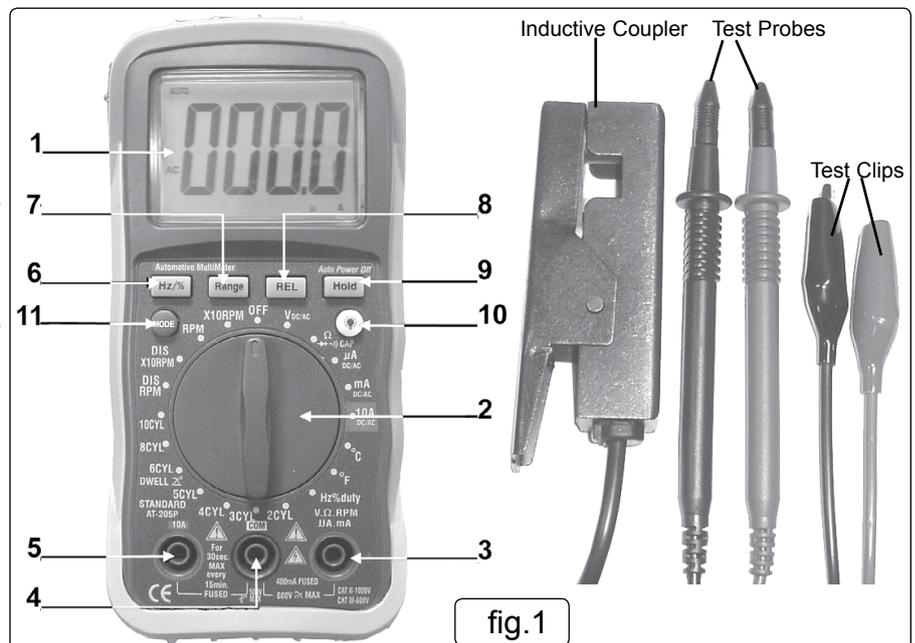

fig.1
- Layout:** (Refer to fig. 1.)